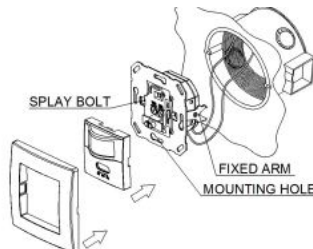

Figure2
- If you want to install it in circular hole, put the sensor into the hole and tighten the splay bolt on both sides (refer to figure 2). If you want to install in quadrate hole, put the sensor into the hole, fix the screw through the mounting hole (refer to figure 3).